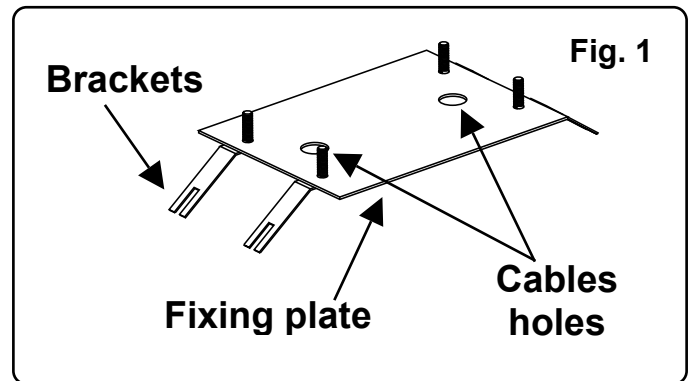

**Fig. 4**
- Check that the wheels ( **Fig. 4** ) used are suitable for the type of runner on the ground